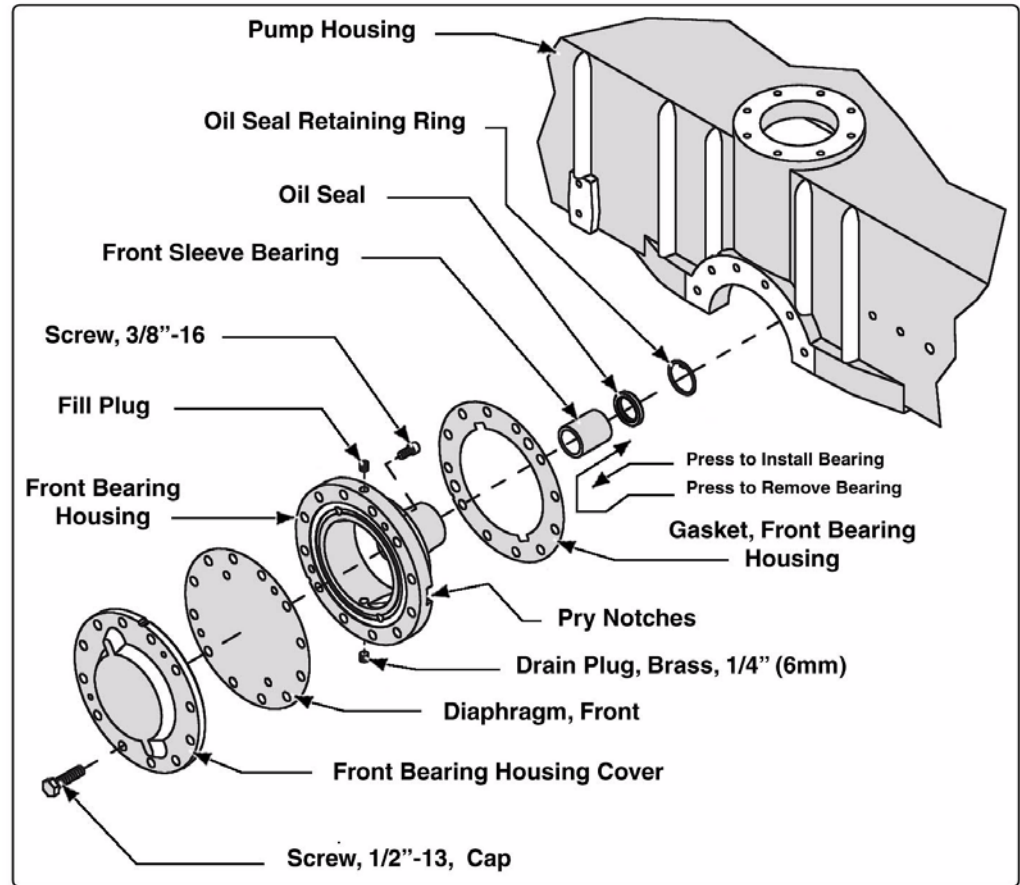

Figure 7-6: AutoLube Assembly Overview
2. Remove the fill and drain plugs from the AutoLube reservoir and drain oil. (See Figure 7-6: “AutoLube Assembly Overview,” on page 117.)
3. Have clean disposable shop rags and oil dry handy and a suitable container to collect the fluid - approximately one (1) quart (0.9 liters).
10. To replace the front sleeve bearing, a press must be used. Also see Figure 7-6: "AutoLube Assembly Overview."
13. Install a new oil seal, then install the seal retaining ring. (See Figure 7-6: "AutoLube Assembly Overview," on page 117.)
15. Line up the center-punch marks and install the housing cover. Apply Loctite #242 to the two (2) 3/8-16 UNC screws. Tighten and torque to 26 ft.-lbs. (35 N-m).
3. Match mark the lower pump body, Autolube housing, and rear bearing housing for easy and accurate reassembly. (See Figure 7-6: "AutoLube Assembly Overview," on page 117.)